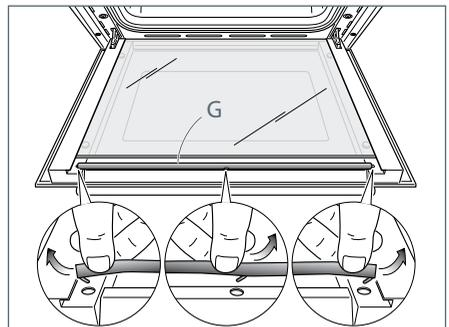

Fig.59d
- Remove the seal "G" by unhooking the three fixing hooks (Fig. 59d).